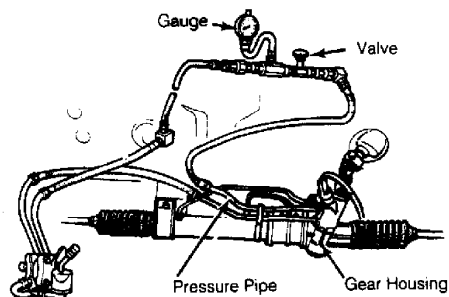

Fig. 1: Connecting Pressure Gauge (Except 4-Wheel Steering)
1) Disconnect pressure hose and connect pressure gauge/valve between steering pump and steering gear. See Fig. 1. Bleed air from system.